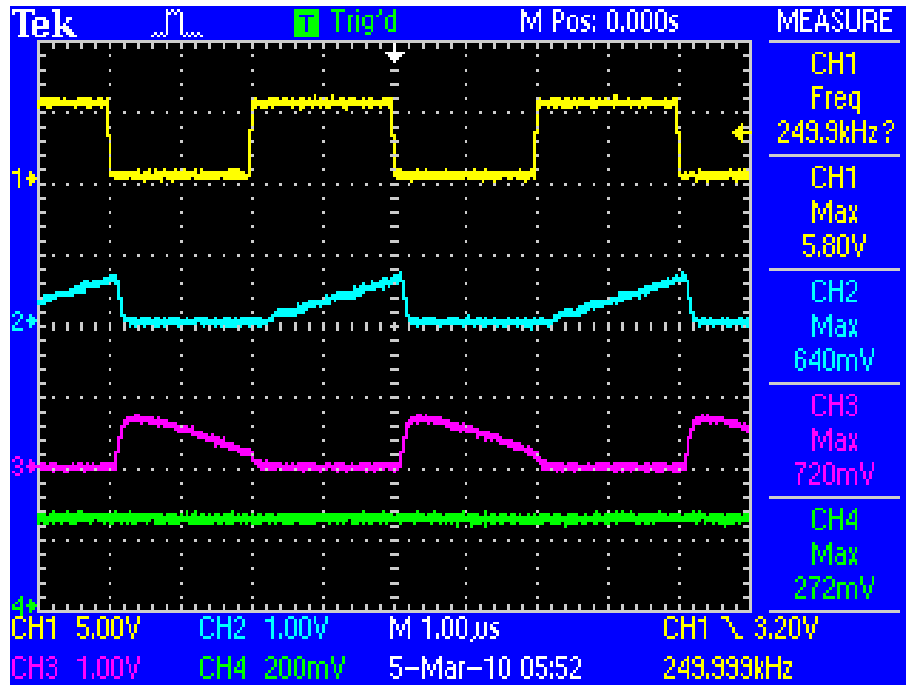

Figure 4. Oscilloscope Display
8. Adjust the level indicator for ALL channels to properly view each channel as shown in Figure 4.
The oscilloscope should display waveforms similar to Figure 4.
Channel 1 should output a signal with a peak voltage of 5 V and have similar slope as shown in Figure 4.
Channel 2 should output a signal with a peak voltage of 500 to 800 mV and have similar slope as shown in Figure 4.
Channel 3 should output a signal with a peak voltage of 500 to 800 mV and have similar slope as shown in Figure 4.
Channel 4 should output a signal with a peak voltage of 250 to 350 mV and have similar slope as shown in Figure 4.